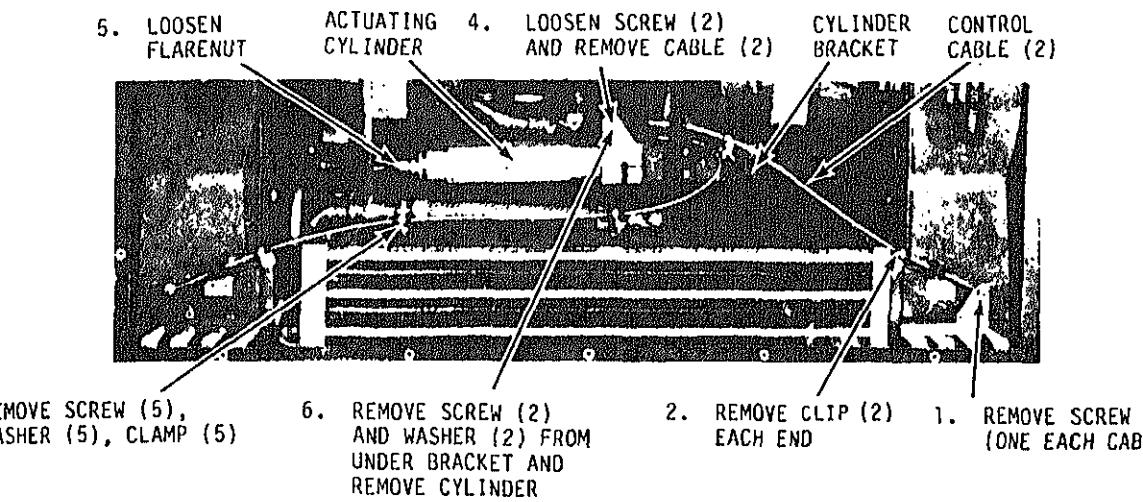

Figure 5-5. Condenser louver control, removal and installation
(3) Refer to figure 5-5 and locate mechanical post screws at each end and loosen control wire.
(4) Remove screw, lockwasher and loop clamp.
(5) Remove push-pull control assembly clips at each end and remove push-pull control.
(6) Disconnect flare nut from actuator cylinder.
(7) Remove two nuts and lockwashers from bracket and remove actuator cylinder. If cylinder is to be replaced, remove rivets and retain push-pull control assembly brackets.
(2) Install actuator cylinder (figure 5-5) with studs through openings in set. Install lockwashers and nuts uds.